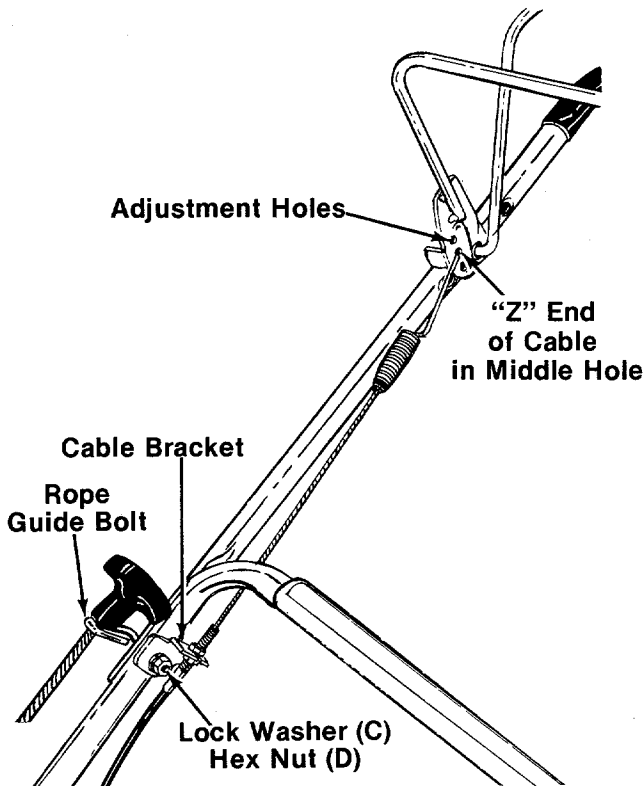

FIGURE 6.
- Route the clutch cable under the lower handle. Hook the "Z" end of the clutch cable into the middle adjustment hole in the clutch control handle. See figure 6.
- Place the clutch cable bracket on the rope guide bolt. See figure 6. Secure with lock washer (C) and hex nut (D).